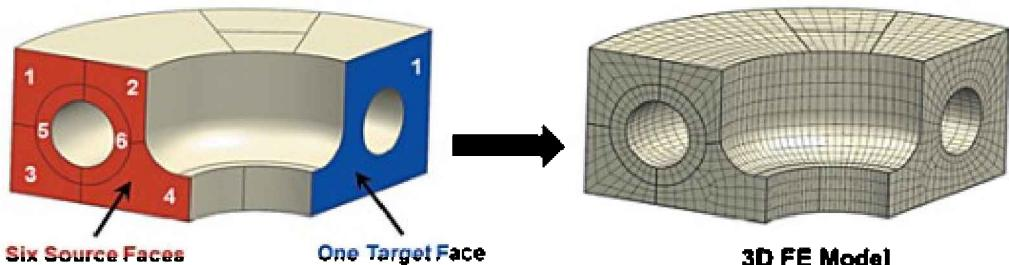

Figure 3.19. “Manual” generation of a hexahedral mesh
- Manual (*Until Target*), which unlike the automated method, allows to generate a mesh for only a single body but also allows to select several source faces instead of just one (Figure 3.19). This method is used for bodies with complex shapes and several source faces.